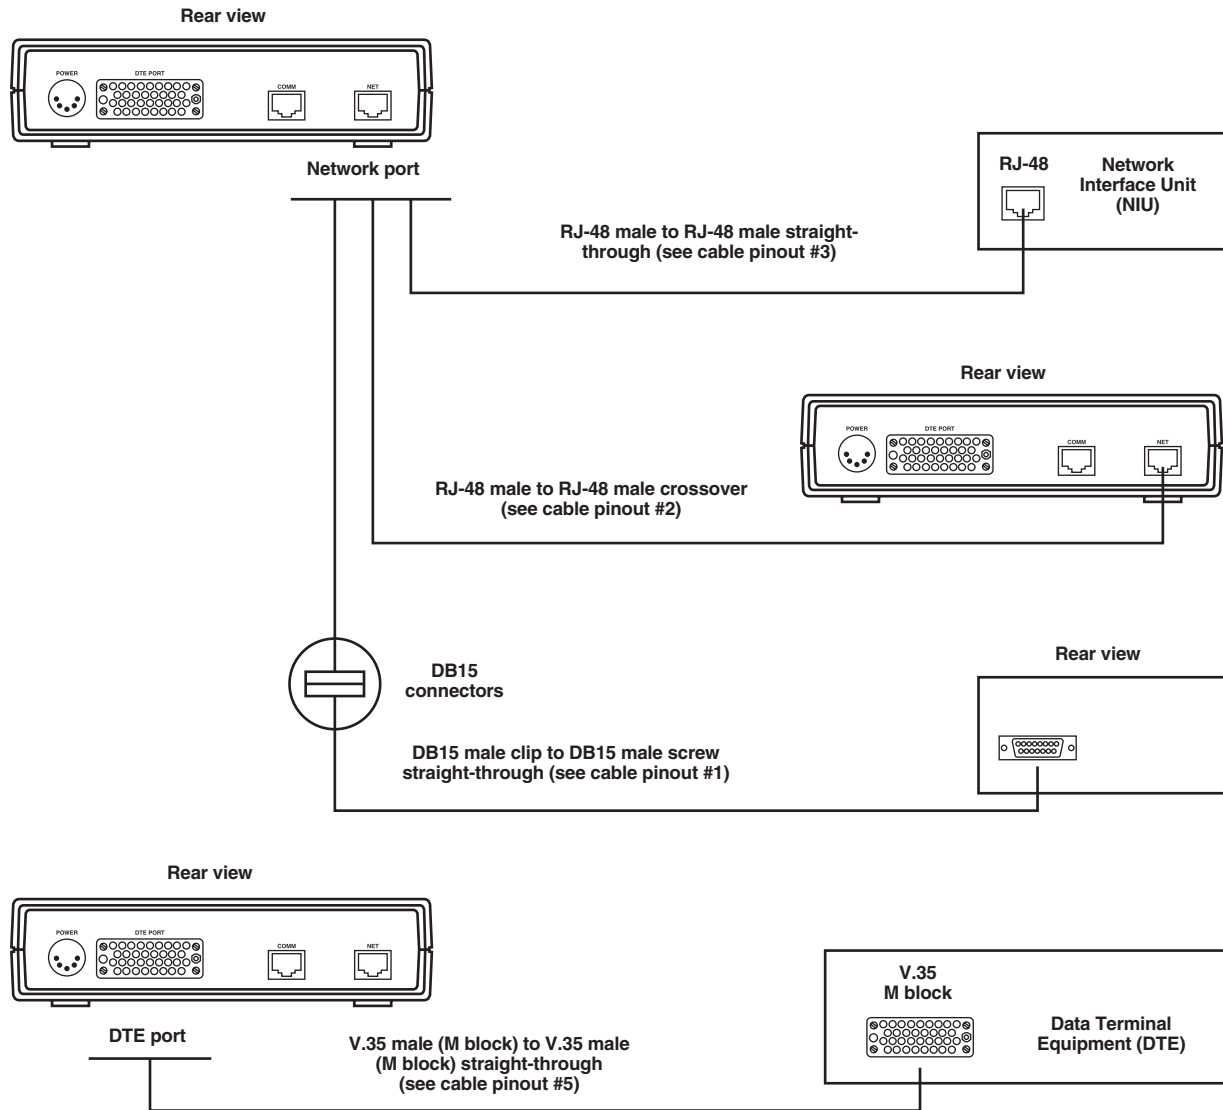

Figure A-1. Common network and DTE cabling configurations.
Some of the more common cabling configurations are illustrated in Figures A-1 through A-3.
- Figure A-1 illustrates network and DTE cabling configurations.